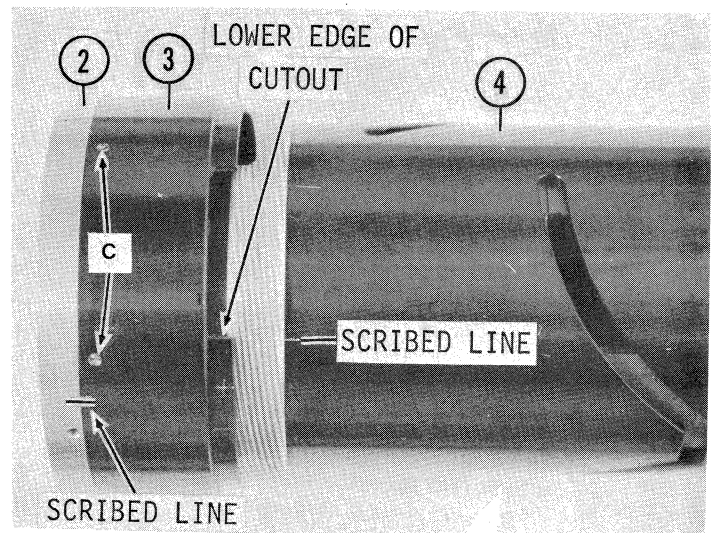

Fig. 13
- 2.1.13 Rotate Outer Helicoid (3) very slowly counterclockwise, carefully noting the exact point of separation of threads of Outer Helicoid and Lens Barrel. At this point, scribe a reference line on Lens Barrel, in line with lower edge of cutout in Outer Helicoid. (Fig. 13)
- 2.1.14 Loosen six setscrews (C), which attach Infinity Stop Ring to Outer Helicoid. (Fig. 13)
- 2.1.15 Remove Infinity Stop Ring (2) (together with First Lens Group, which is screwed into it). (Fig. 13)